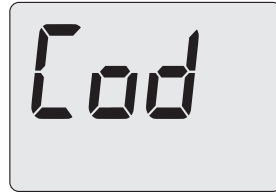

Figure 9.21
- Scroll through the various parameters using 13 or 14 until the LCD display shows the message **Cod**, indicating entry into “parameter Cod” (Figure 9.21), and then displays three dashes “- - -”.